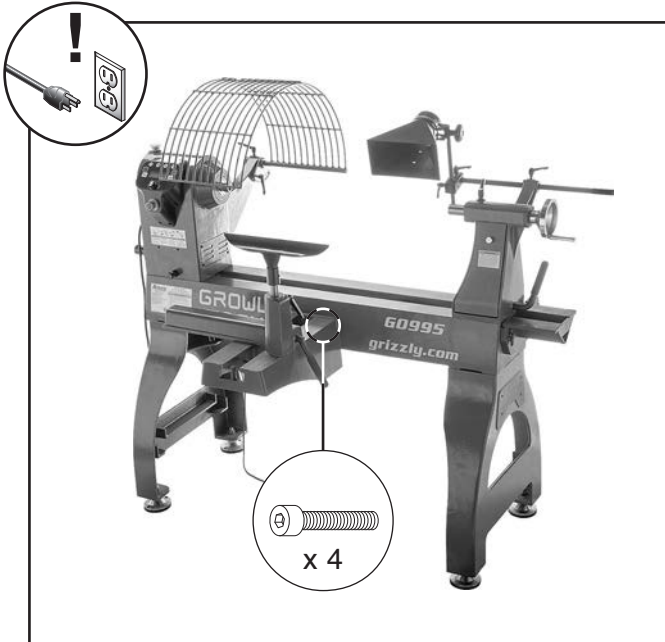

Figure 89. Location of bed extension fasteners (bed extension installed in center mounting position).
2. Loosen (4) M10-1.5 x 30 cap screws securing bed extension (see **Figure 89**). Do not fully remove cap screws at this time.